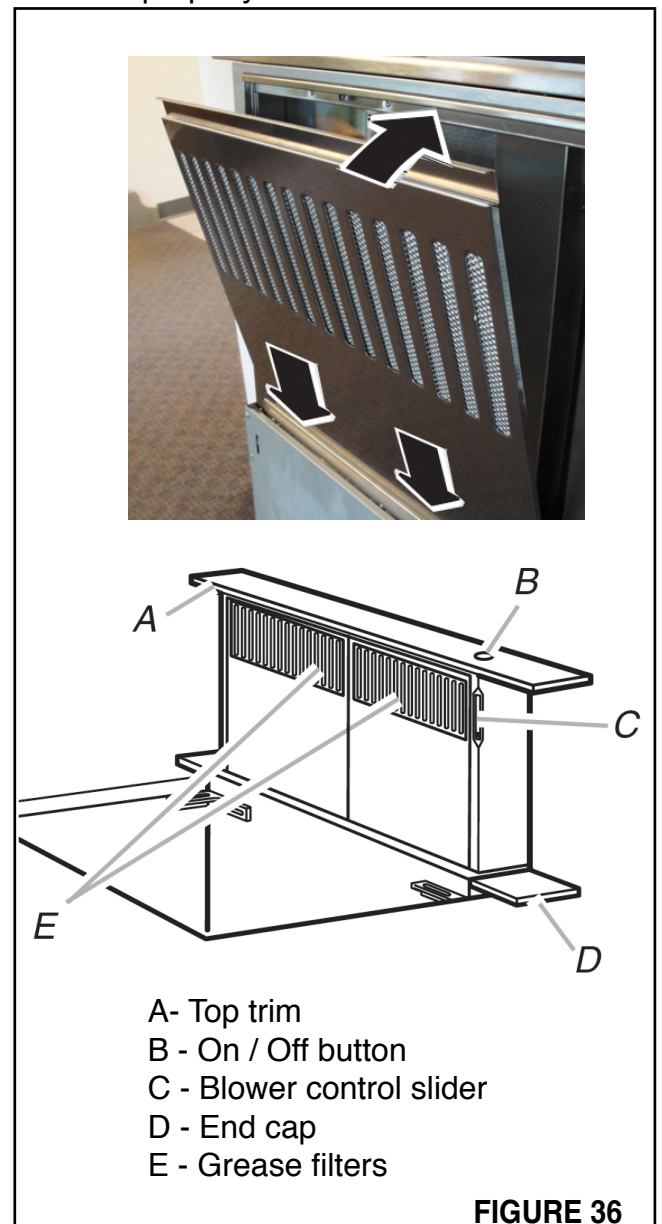

FIGURE 36
- Install grease filters (**PAGE 18, FIGURE 36**)
1. Place filters into the retractable section of the downdraft vent. (E in FIGURE 36)